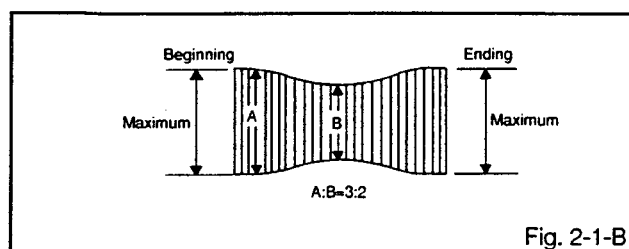

Fig. 2-1-B
3. Trigger with SW pulse and observe the envelope. (Refer to Fig. 2-1-A)
5. Press and hold the tracking control button and (at the point that the envelope waveform starts to reduce) adjust the envelope so that the A : B ratio is better than 3 : 2. (Refer to Fig. 2-1-B)
6. Connect CH-1 on the oscilloscope to **TP4001** and CH-2 to **TP4101**. Playback the VHS alignment tape (**JG001E**). Set the tracking to manual center. Adjust X with the screw driver for X (**JG153**) as the **Fig. 2-1-A** and **Fig. 2-1-B**.